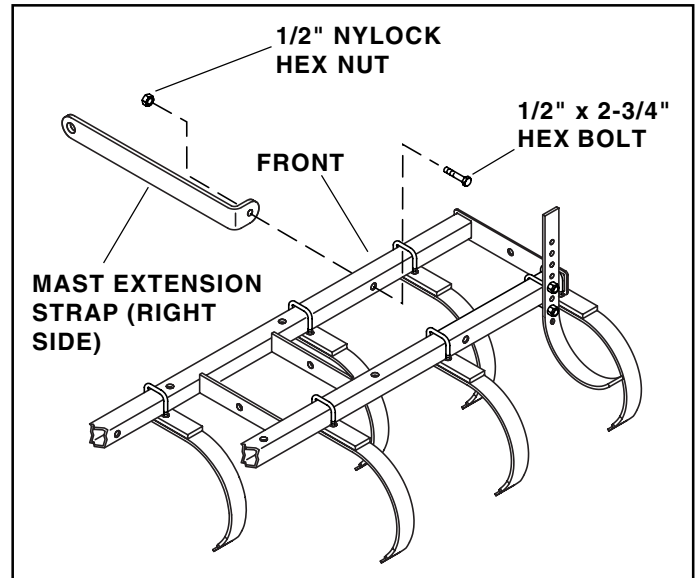

FIGURE 2
2. Attach two mast extension straps to the front of the frame using two 1/2" x 2-3/4" hex bolts and two 1/2" Nylock hex nuts. Point the bent end of each strap toward the outside of the frame. **Do not tighten yet.** See figure 2.